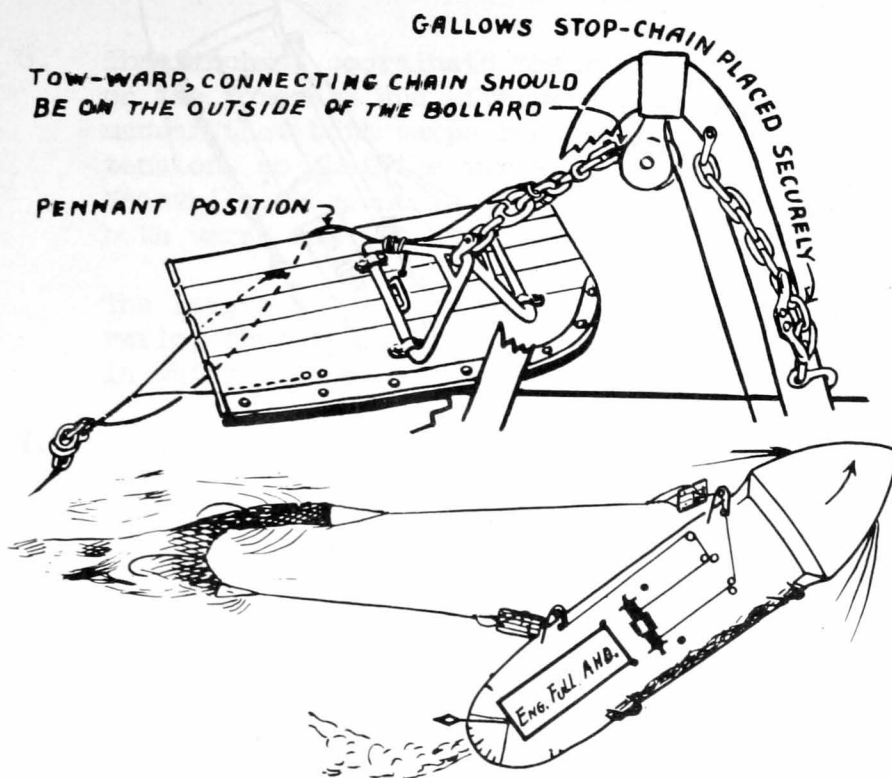

Fig. 6. Course of Vessel Ready to Drop Trawl Doors.
13. The stop-chain is then set aside and made fast so that it will not become fouled when shooting the trawl (fig. 6).